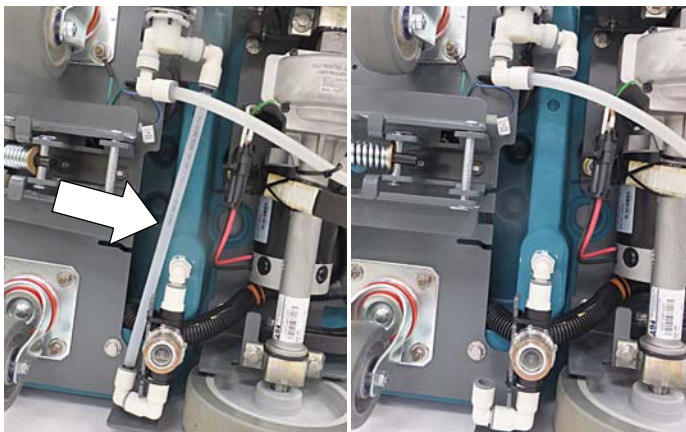

Fig. 25
3. Remove the solution hose as shown. Do not discard hose, it will be utilized in step 8. Press the gray collar on fittings inward and pull the hose outward to remove hose from fitting (Figure 25).